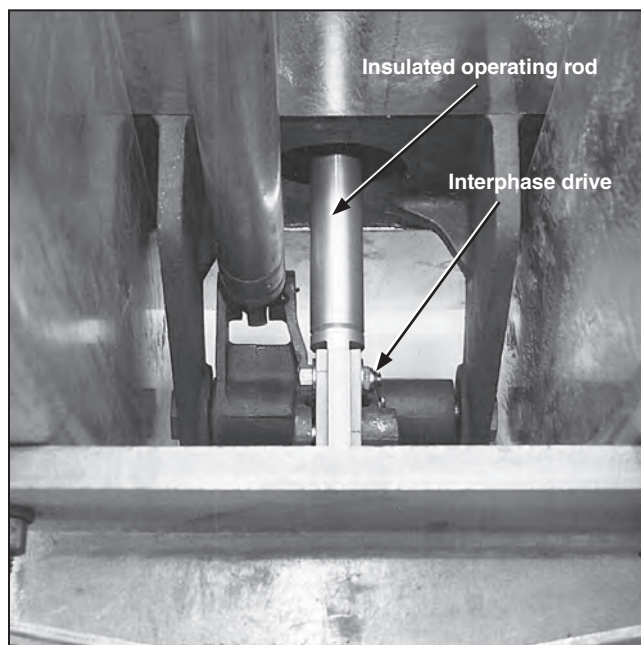

Figure 35. Making sure each insulated operating rod has been connected to the interphase drive.
- Each insulated operating rod is connected to the interphase drive (See Figure 35.)